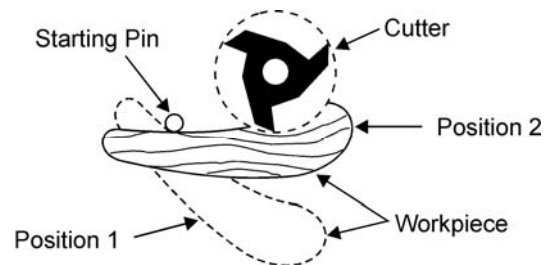

Figure 39
When the workpiece is not contoured all around, start the cut as shown in Figure 39. With this operation, the workpiece is positioned against the starter pin and the end swung into place to start the cut. When the cut has begun and the workpiece firmly against the collar, swing the stock away from the pin and proceed with cut.
- The work should be placed in the *position 1*, (Figure 39), using the starting pin as a support